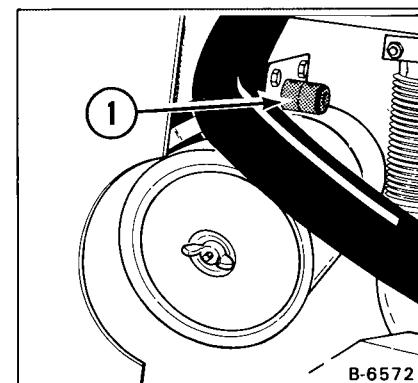

Fig. 1-10 Condition Indicator
NOTE: Before changing the air cleaner, push the button on the condition indicator (Fig. 1-10, Item 1), start the engine and if the red ring still shows, do the following service procedure.
The large air cleaner element (outer) must be replaced when the red ring shows in the window of the condition indicator (Fig. 1-10, Item 1). DO NOT remove the inner filter. Service the air cleaner as follows:
(1) Remove the wing nut (Fig. 1-10, Item 2) and remove the air cleaner cover. Remove the filter element (Fig. 1-11, Item 1).